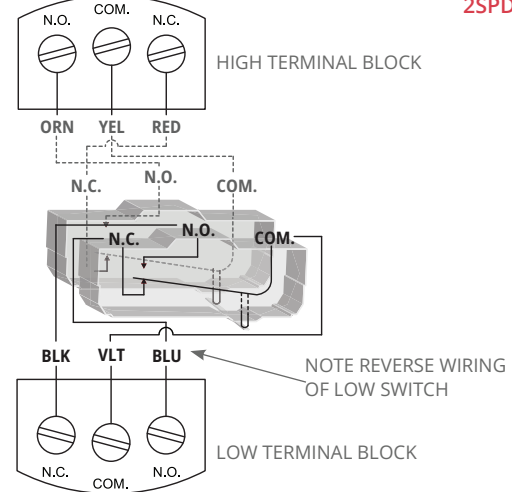

Figure 3
- 1 Remove cover and wire device (See Figure 3).